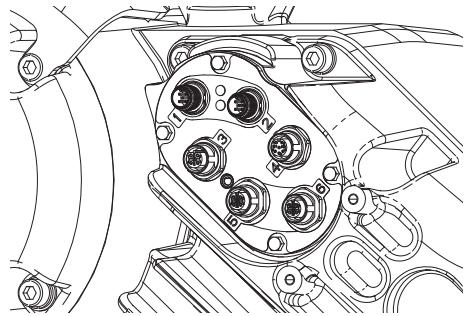

FIG. 26
2. Turn the disconnect switch (M) OFF.
- a. Remove the driver housing cover (HC).
- c. Loosen the cord grip (CG).
- d. Remove wires from driver housing by pulling them through the cord grip (CG).
- e. Disconnect the cables connected to ports 1-6 on the side of the driver, shown in FIG. 26.